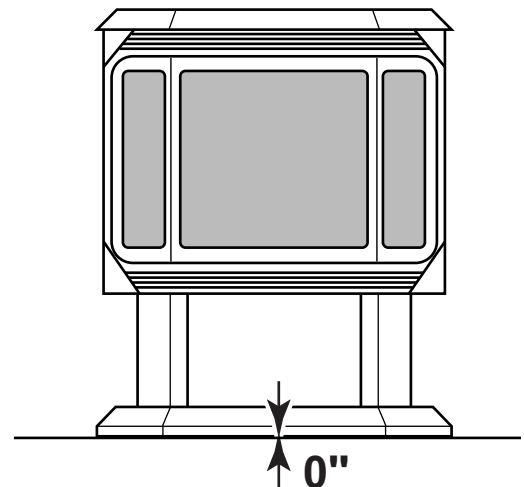

Figure 5 - Clearance to Floor
- No clearance is necessary to the floor. Stove may sit on the floor. *See Figure 5.*